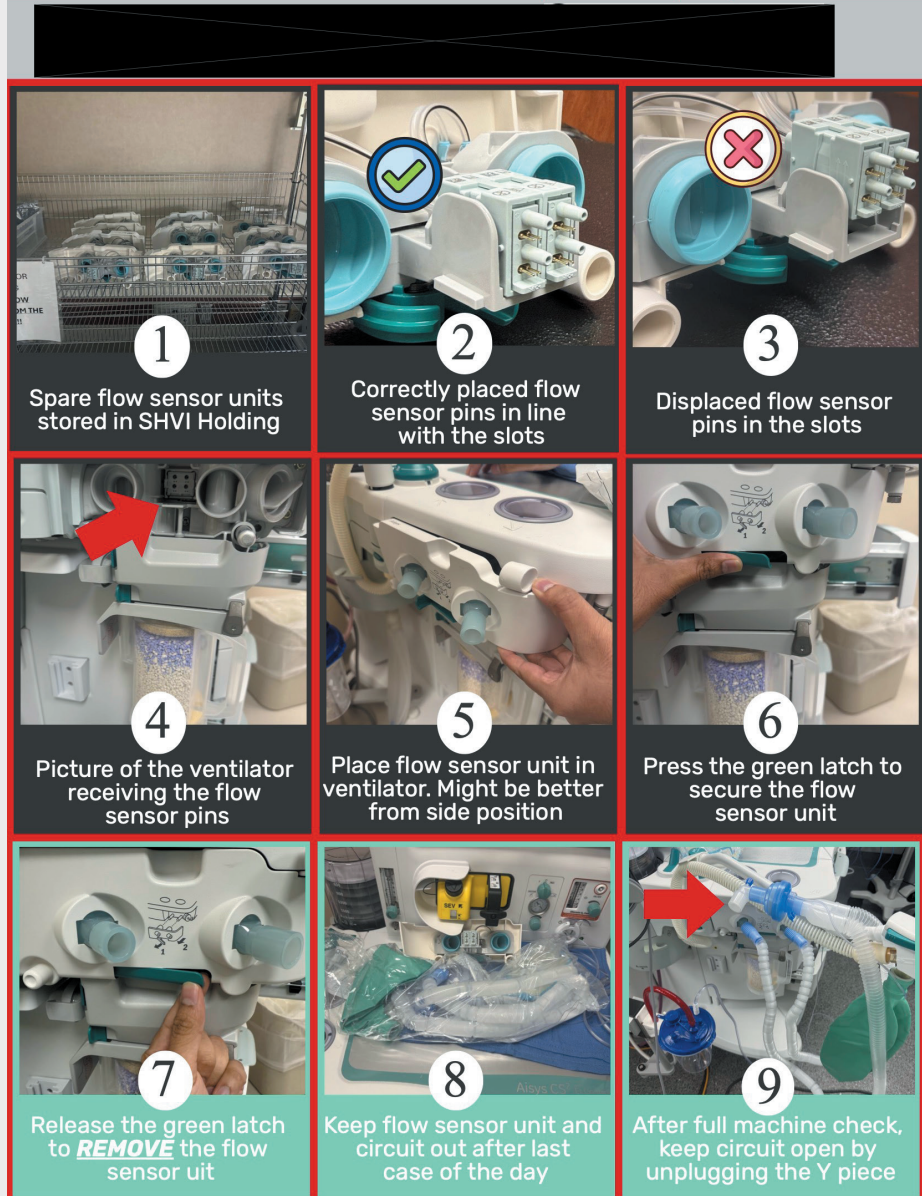

Figure 3: Educational flyer on moisture mitigation for anesthesia professionals and technicians.
1. Extensive anesthesia professional and technician education was provided through grand rounds, emails, and virtual and in-person meetings. Anesthesia professionals were specifically educated on weekly mold and moisture checks and daily moisture mitigation steps, which included removing the breathing circuit and flow sensors overnight (Figures 3 and 4).